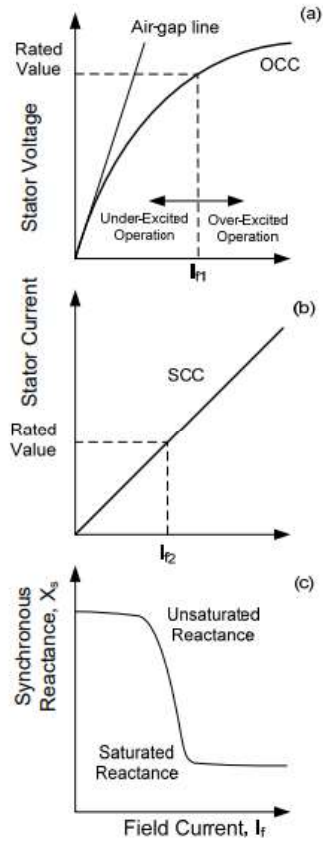

Fig. 5. Machine tests conducted at rated rpm: (a) Open Circuit test and Open Circuit Characteristic (OCC).
The open circuit characteristic curve (OCC) describes the relation between the generated voltage and the excitation current under open stator. The relation is shown in fig. 5(a). The OCC is obtained by running the machine rotor at synchronous speed and measuring the voltage across the stator open terminals for different values of the field current.
With reference to fig. 5(a), when the machine is weakly excited, the rotor and stator steel are unsaturated and the voltage increases linearly with the field current. This linear part of the OCC is the air-gap line. As the excitation increases, the steel becomes saturated and the same current increment results in less magnetic flux increment and, according to (2), in less voltage increment. In the figure, I_{f1} is the value of the field current at which the rated voltage is generated.
The short circuit characteristic (SCC) of the generator is the relation between the stator current under short-circuited stator and the rotor field current. The short circuit test is conducted by shorting the stator terminals and running the rotor at synchronous speed. One of the stator terminals is shorted through an ammeter and the short-circuit current of the stator is measured for different values of the field current. When the stator terminals are shorted the net induced voltage on the stator windings is zero. Therefore, the secondary magnetic field produced in the air-gap by the stator current (armature reaction) is equal in magnitude and opposite in direction to the rotor field. Therefore, the short-circuit current varies proportionally to the field current. This is seen in the SCC in fig. 5(b). In the figure, I_{f2} is the value of the field current resulting in rated circuit current flowing through the short-circuited terminals of the stator.
The synchronous reactance of the machine is shown in fig. 5(c) as a function of the field current. At low values of the field current, when the machine is unsaturated, the reactance remains nearly constant. The value of the reactance, however, decreases with increasing field current, as the machines enter saturation. Since in normal operation, the field current is around I_{f1} , where the machine has entered the saturation region, the saturated value of X_s is used in the equivalent circuit.